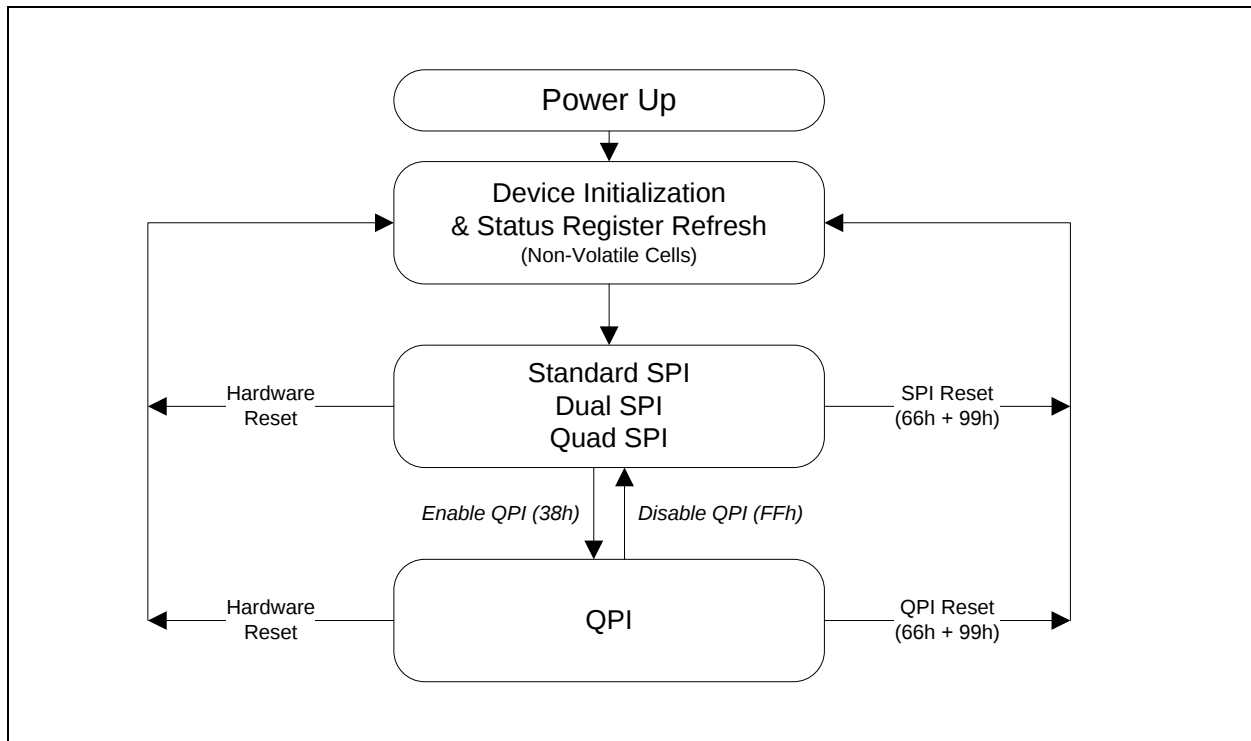

Figure 3. W25Q128FW Serial Flash Memory Operation Diagram
The W25Q128FW supports Quad Peripheral Interface (QPI) operations only when the device is switched from Standard/Dual/Quad SPI mode to QPI mode using the "Enter QPI (38h)" instruction. The typical SPI protocol requires that the byte-long instruction code being shifted into the device only via DI pin in eight serial clocks. The QPI mode utilizes all four IO pins to input the instruction code, thus only two serial clocks are required. This can significantly reduce the SPI instruction overhead and improve system performance in an XIP environment. Standard/Dual/Quad SPI mode and QPI mode are exclusive. Only one mode can be active at any given time. "Enter QPI (38h)" and "Exit QPI (FFh)" instructions are used to switch between these two modes. Upon power-up or after a software reset using "Reset (99h)" instruction, the default state of the device is Standard/Dual/Quad SPI mode. To enable QPI mode, the non-volatile Quad Enable bit (QE) in Status Register-2 is required to be set. When using QPI instructions, the DI and DO pins become bidirectional IO0 and IO1, and the /WP and /HOLD pins become IO2 and IO3 respectively. See Figure 3 for the device operation modes.